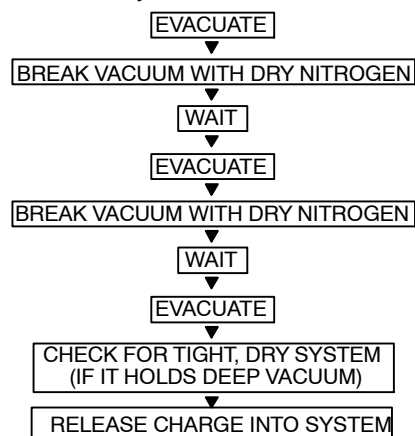

Figure 16 – Triple Evacuation Method
The triple evacuation method should only be used when vacuum pump is only capable of pumping down to 28 in. of mercury vacuum and system does not contain any liquid water. Refer to Fig. 16 and proceed as follows:
5. Repeat this procedure as indicated in Fig. 16. System will then be free of any contaminants and water vapor.